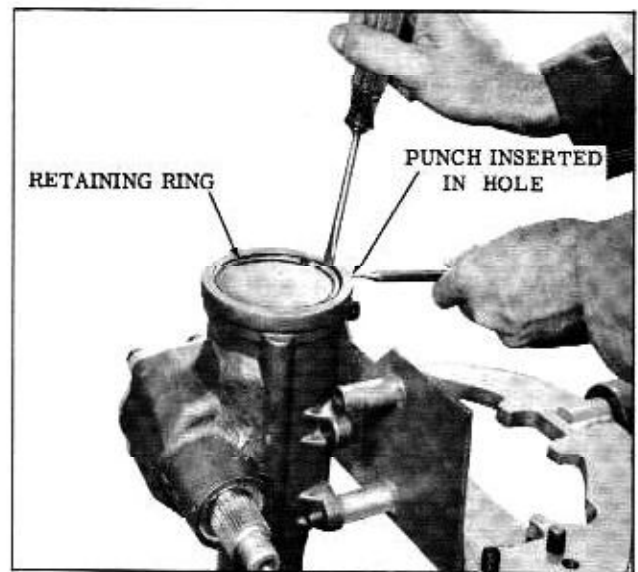

Fig. 4-40 Removing End Cover Ring
1. Rotate end cover retainer ring so that one end of the ring is over hole in side of housing then force end of ring from its groove and remove ring. (Fig. 4-40)